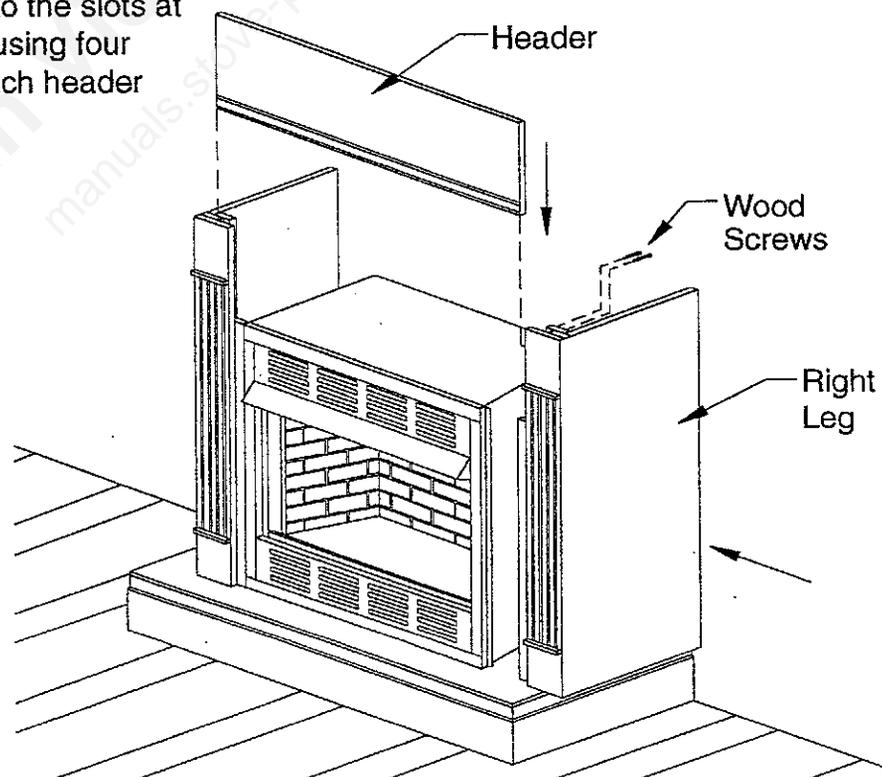

Figure 13 - Installing Cabinet Mantel Legs & Header
7. Place the Cabinet Mantel Legs on Hearth Base and slide each side firmly up against the unit (See Figure 13). **NOTE:** The Cabinet Mantel Legs and Hearth Base should be against the wall.